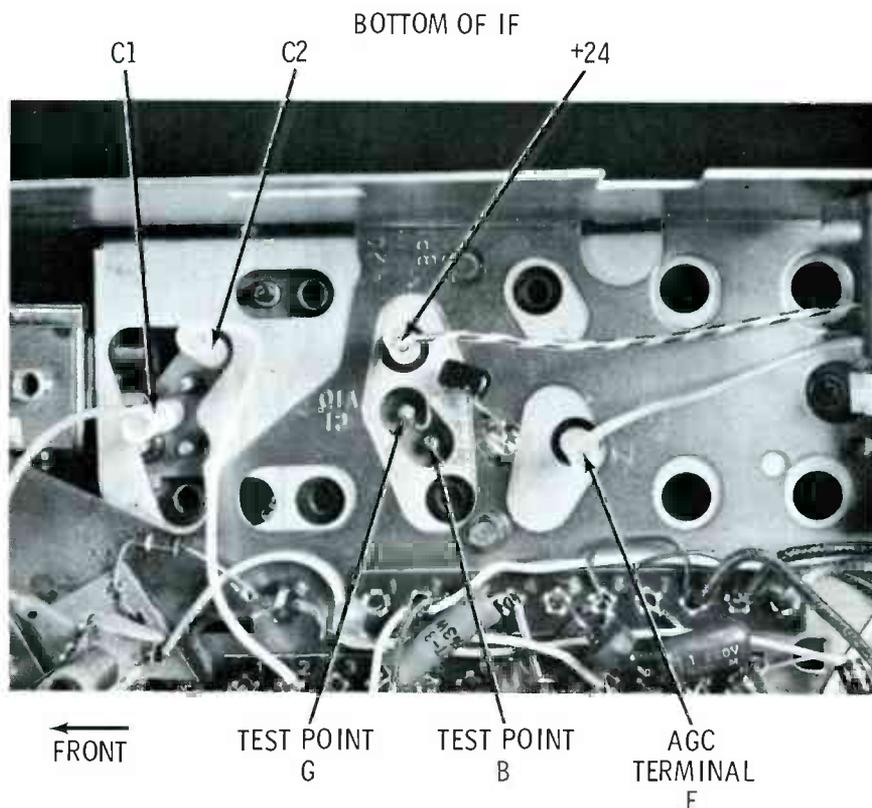

Fig. 7 Location of the AGC terminal and other test points underneath the IF compartment of the receiver.
- 3) Remove the yellow AGC wire from terminal E, as shown in Fig. 7